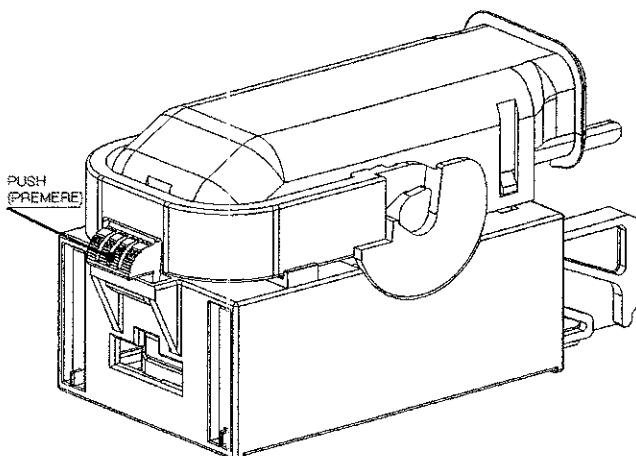
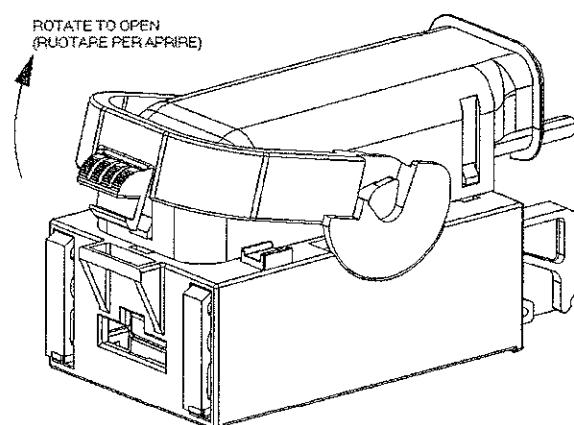

Figure 21 (Figura 21)
Figure 22 (Figura 22)
- Push the unlock button lever as shown in Figure 21 and rotate the lever up to the vertical position respect to the mating plane, as show in Figure 22; a lock noise must be heard (Detail of Figure 23)